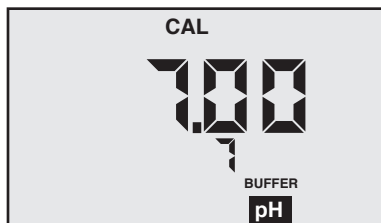

Figure 6
4. Press  to enter calibration mode. The “CAL”, “BUFFER” and “7” annunciators will appear (see Figure 6). Displayed value will be the uncalibrated sensor.